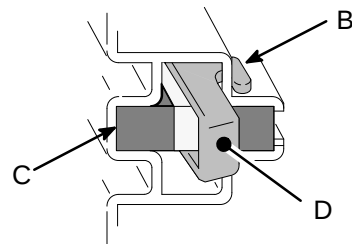

Fig 14
3. Push in the spring clip (D) to release its hooks (B) from the brush holder, and pull it out. See Fig 14.